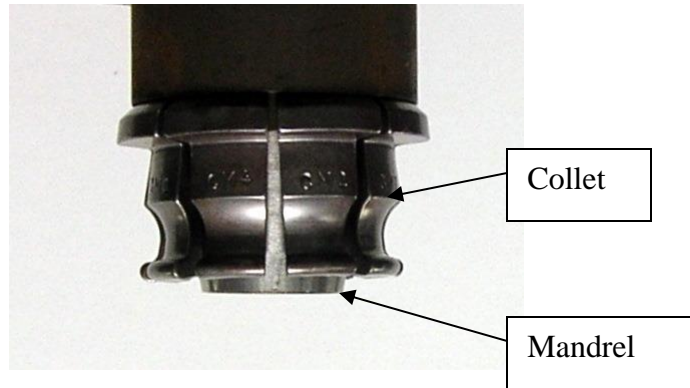

Figure 30 – Mandrel Extending Below the Bottom of Collet
- a. Check crimp head mandrel to assure that it is not extending below the bottom of the collet when collet is expanded (see Figure 30).